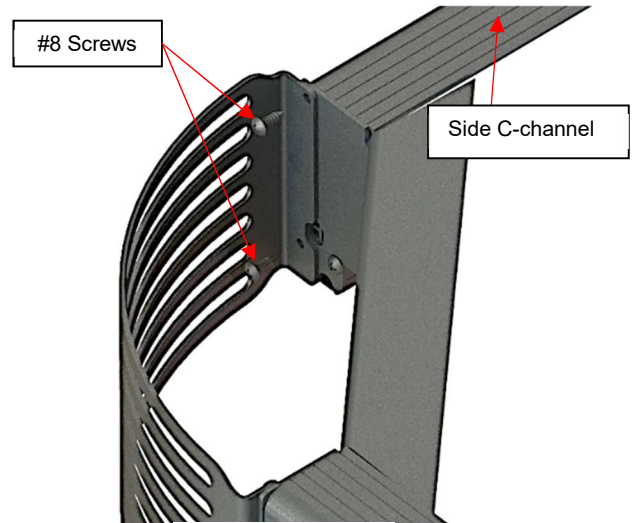

Figure 77
33) Fasten the Robertson sheet metal #8 x 1/2" screws that hold the side C-channel (Figure 77).